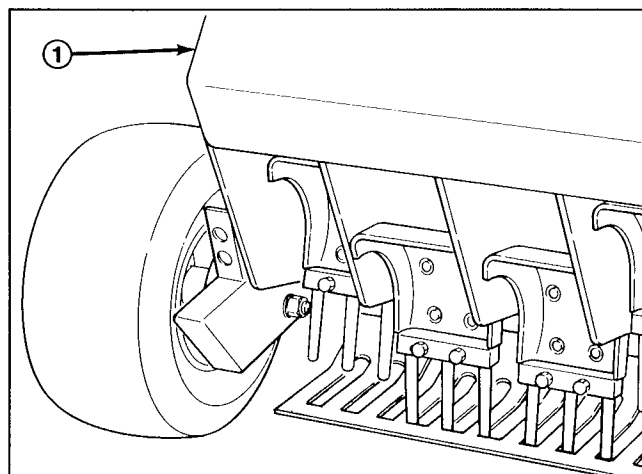

Figure 43
A. Unlatch and remove coring head cover (Fig. 43).